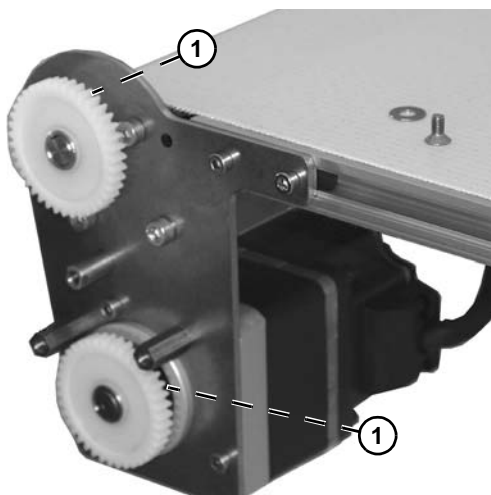

Figure 5
4. Loosen set screws (**Figure 5, item 1**) to remove drive and driven gears.